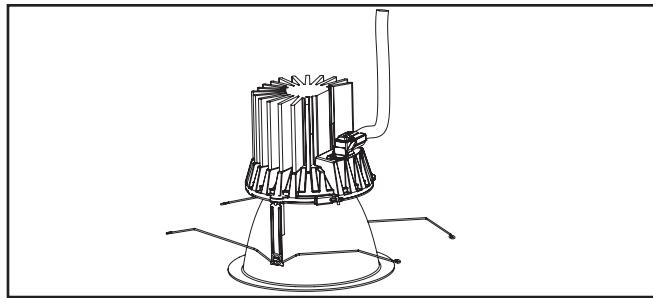

Figure 11
11. Ensure the connector is properly engaged. (Figure 11).